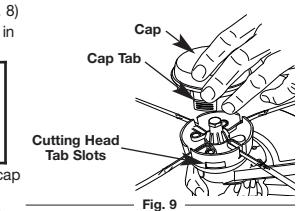

Fig. 9
- Replace the cutting head cap, making sure to align the cap tabs with the cutting head tab slots. (Fig. 9)